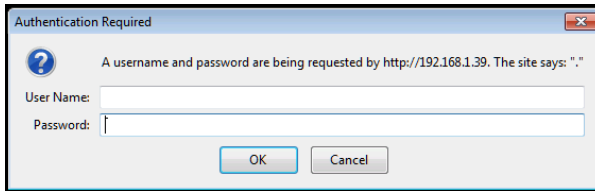

Figure 7: Entering Logon Credentials
**Note:** If authentication is enabled, the following window appears (Figure 7) and you must enter the valid username and password to access the Web pages. For default logon credentials, see Section 9.1.